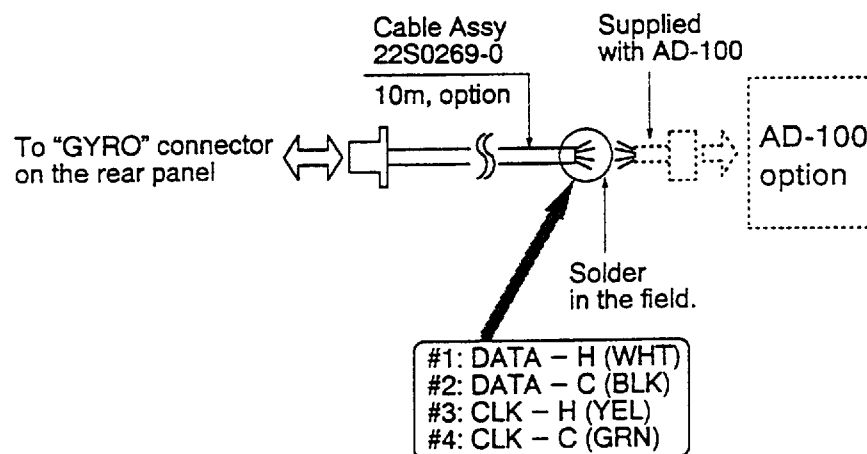

Figure 6-8 Gyro Connection
8. Close the radome cover on the radome base assembly, being careful of its direction. The narrower recessed part should face the bow direction. See Figure 6-8.